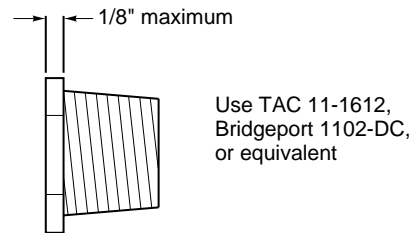
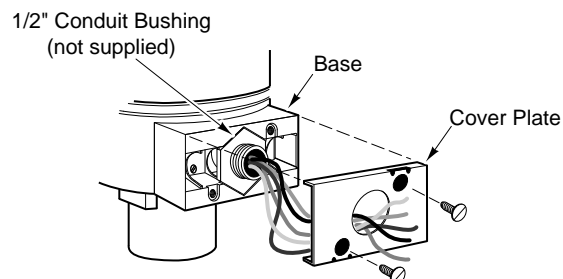

Figure-9 1/2" Conduit Bushing.
Figure-10 Conduit Bushing and Cover Plate Installation.
2. Slip the actuator's leads through a standard 1/2" conduit bushing (Figure-9, not supplied) and the knockout hole in the cover plate. Refer to Figure-10.
*Note:* As shown in Figure-10, the hole in the actuator's cover plate is also sized to accept both British standard M20 (20 mm) conduit connectors and 20 mm-to-PG16 adaptors for use with DIN PG16 connectors. (Follow the steps for installing the conduit box to the actuator.)